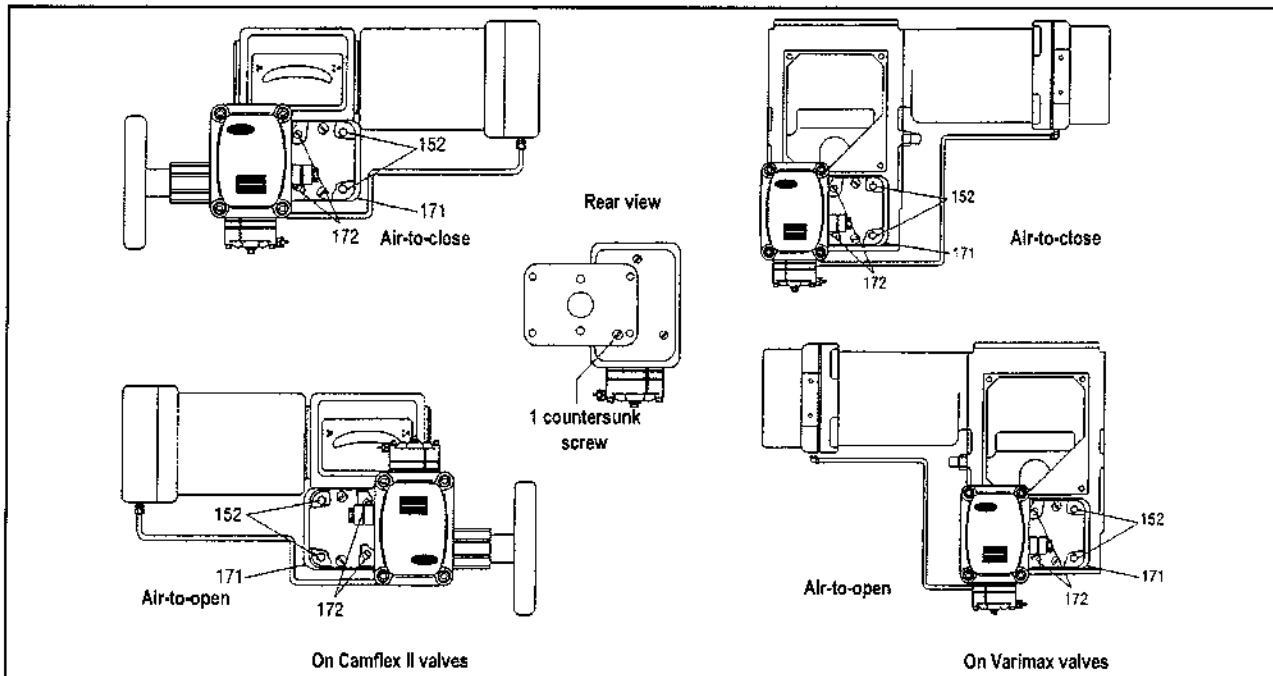

Figure D2 - Mounting position of 8013 Series positioner with cam
With two cap screws (152) and a countersunk screw, assemble the mounting plate (171) on the molded bracket of the positioner and on the positioner. (The molded bracket is already fastened to the positioner with two fillister-head screws). Then secure this assembly on the valve yoke with two countersunk screws (172). The orientation of the positioner on the valve is function of the actuator action. It is indicated in figure D2.